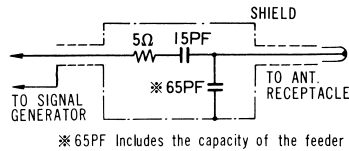

Fig. 3-1
- Dummy antenna: Connect the antenna receptacle of radio set and the signal generator by means of dummy antenna. (See Fig. 3-1)